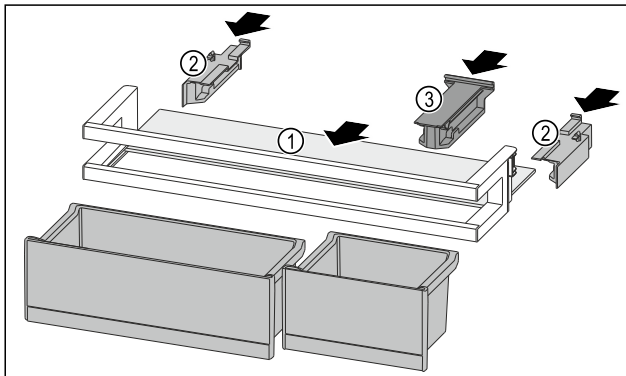

Fig. 135
- ▶ Push the shelf Fig. 135 (1) into the side recesses.
- ▶ Insert the side parts Fig. 135 (2).
- ▶ Insert the holding part Fig. 135 (3).